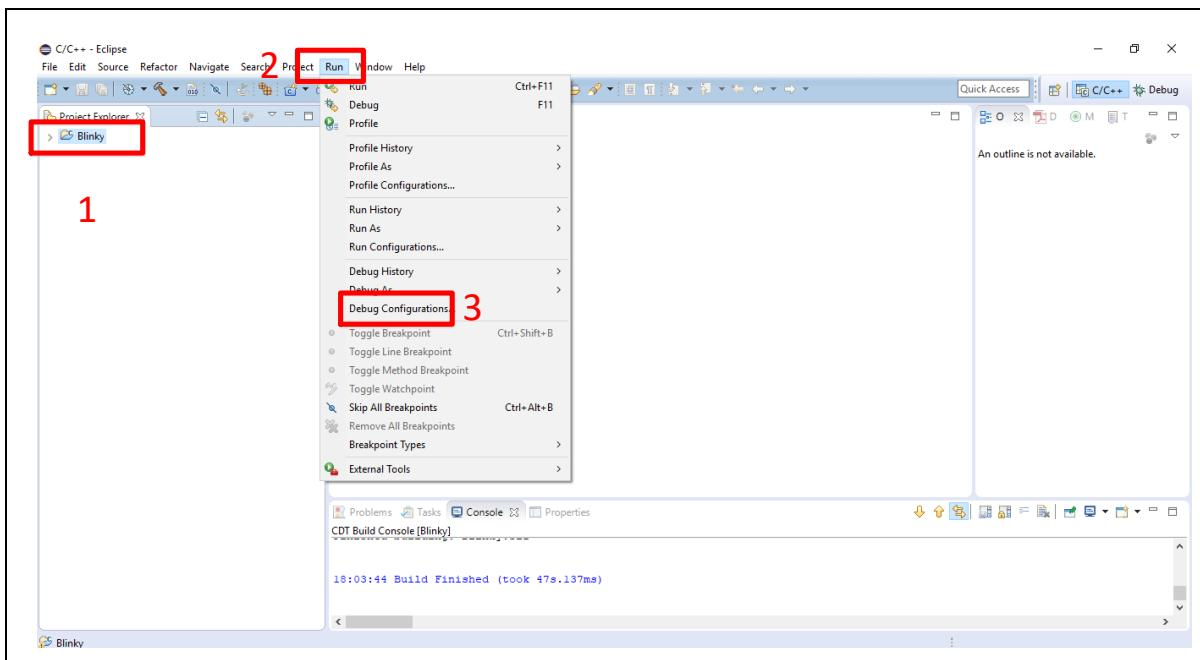
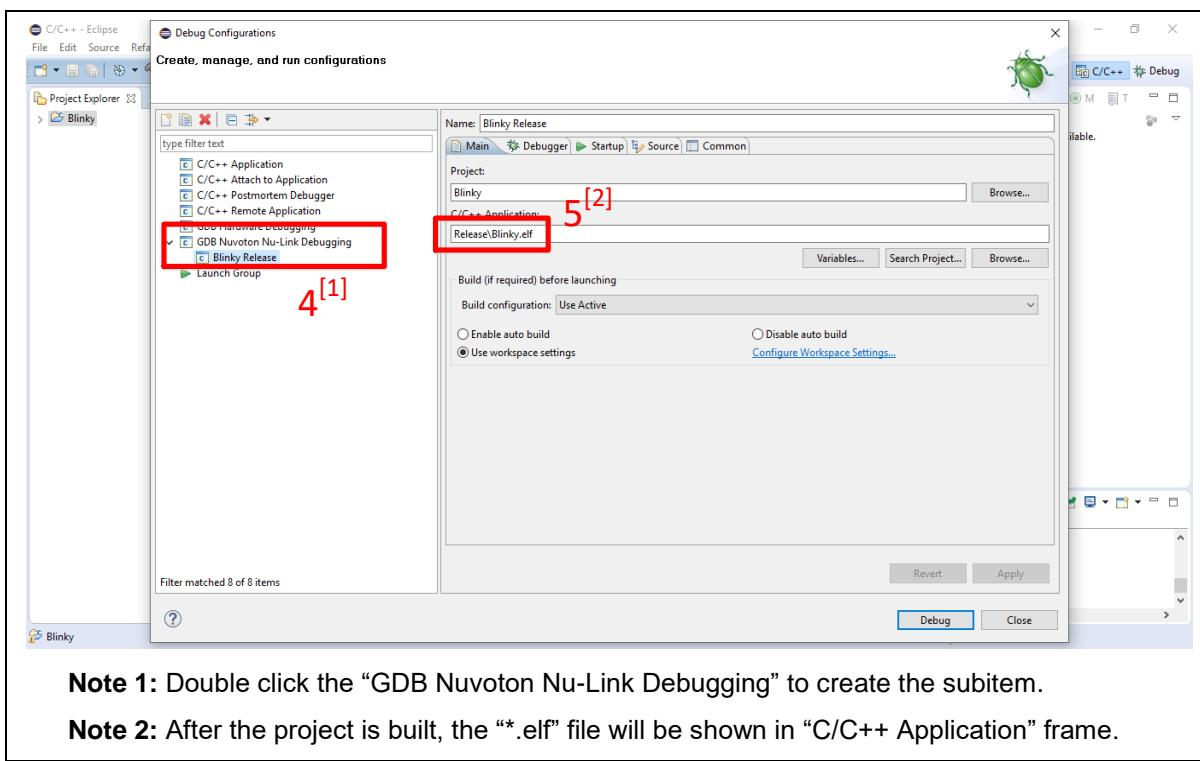
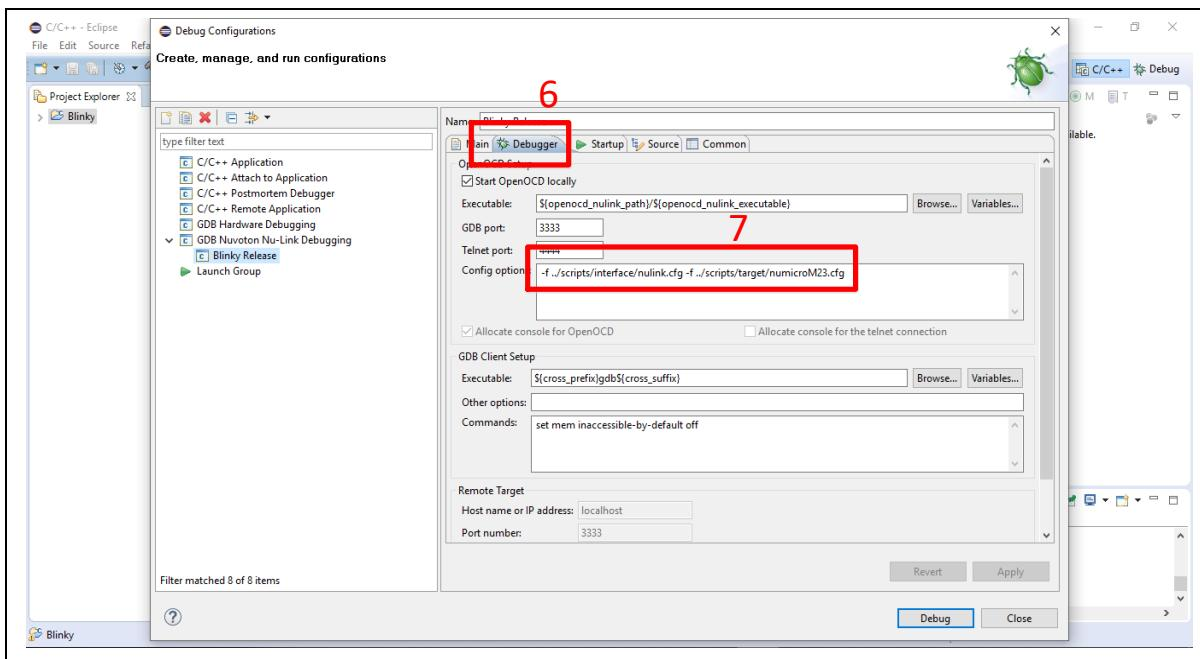
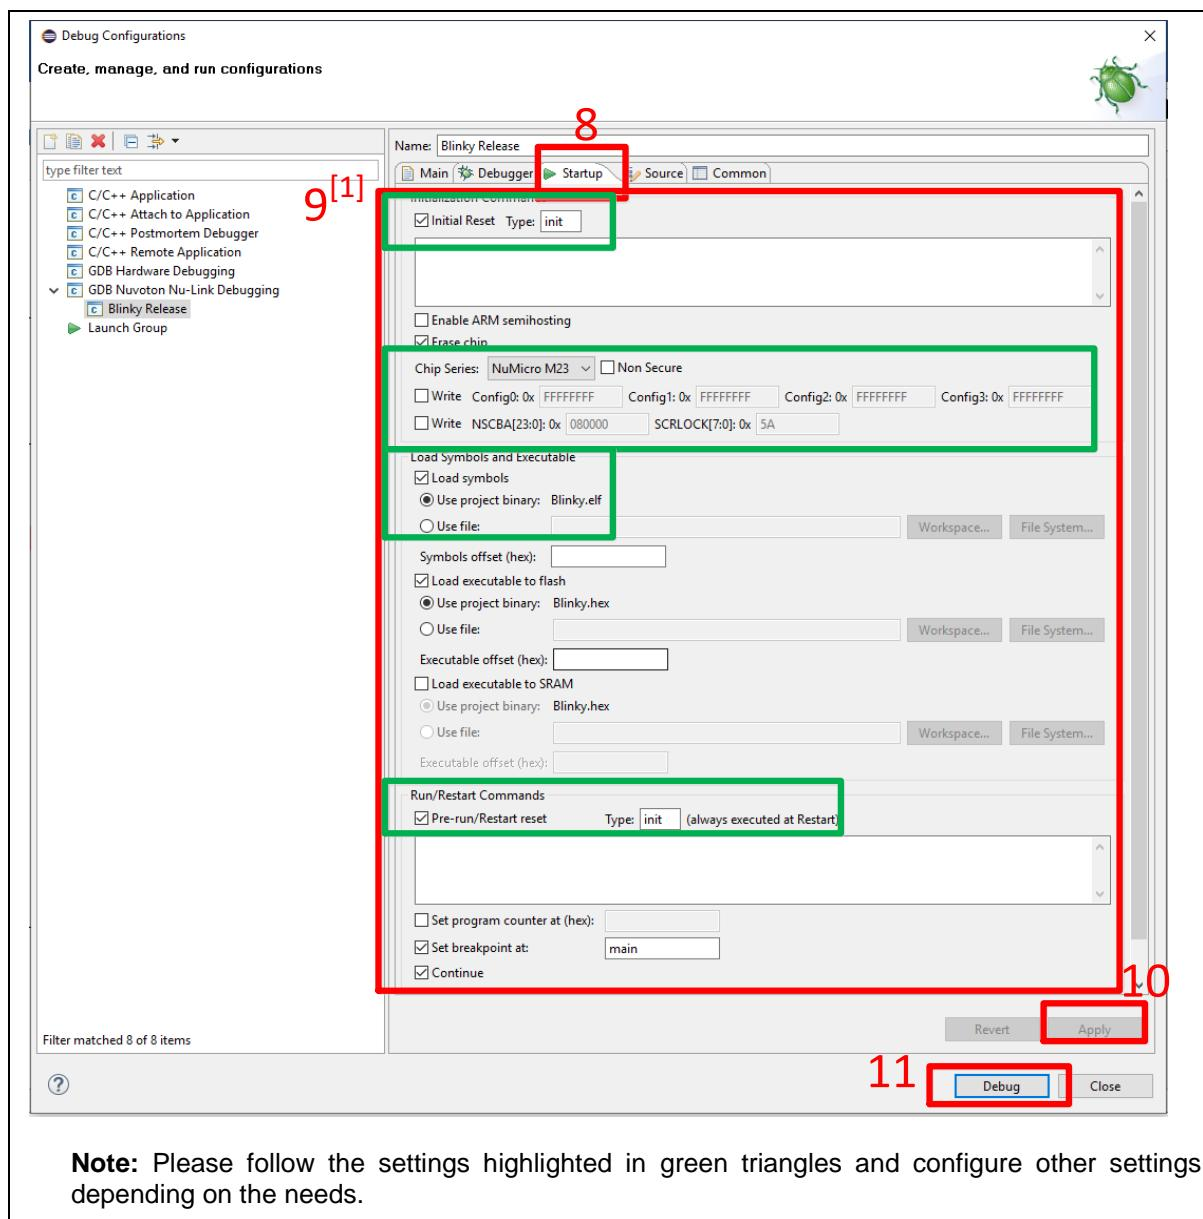

Figure 4-22 Open Debug Configuration
Figure 4-23 Main Tab Configuration
Figure 4-24 Debugger Tab Configuration
Figure 4-25 Startup Tab Configuration
5. After the project is built, click the “Blinky” project and set the “Debug Configuration” as shown in Figure 4-22. Follow the settings presented in Figure 4-23, Figure 4-24 and Figure 4-25 to enter debug mode.